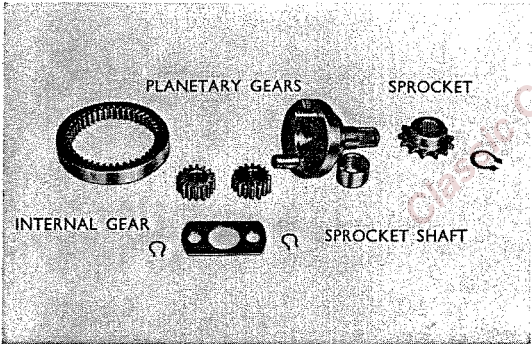
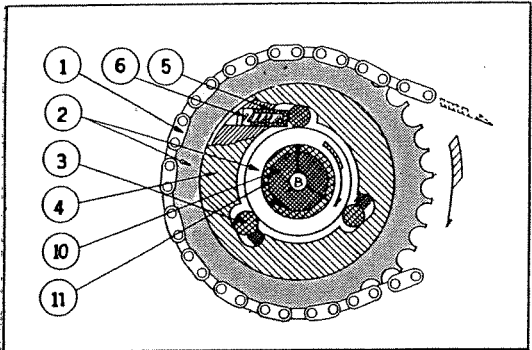

Fig. 5.75 Parts of starting motor reduction mechanism
Fig. 5.82 (A) Principle of starting clutch operation
of the starting sprocket should be assembled. If the sprocket is forced in without disassembling the starting motor, the planetary gear contacts the case and rotation cannot be obtained. (Refer to Fig. 5.75 to 5.77)
In lubrication of the overrun clutch, oil applied at the position shown in Fig. 5.75 (A) passes the three grooves shown in Fig. 5.74 (B) and is applied to the interior of the oil seal, which prevents seizure. Therefore, lubricating positions (A) and (B) must be cleaned by employing compressed air upon disassembly. (Refer to Figs. 5.82 and 5.83)